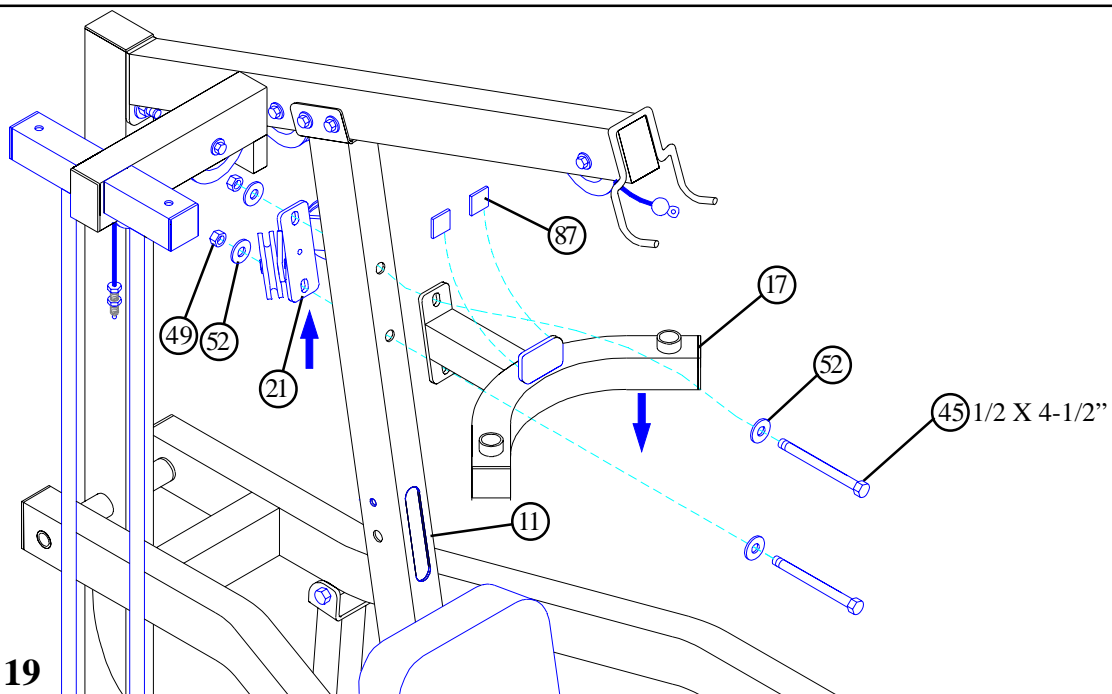

FIGURE 19
- Securely assemble the BEARING HOUSING (17) and the CENTER PULLEY BRACKET (21) to the FRONT UPRIGHT (11) as shown in FIGURE 19, using two 1/2 X 4-1/2" BOLTS (45), four 1/2" WASHERS (52), and two 1/2" LOCKNUTS (49). (NOTE: The connector plates on the BEARING HOUSING (17) and the CENTER PULLEY BRACKET (21) have slotted holes. Shift the BEARING HOUSING (17) down as far as possible and the CENTER PULLEY BRACKET (21) up as far as possible before tightening.)
- Attach two 1" X 1" GLIDES (87) to plate on the BEARING HOUSING (17) as shown.